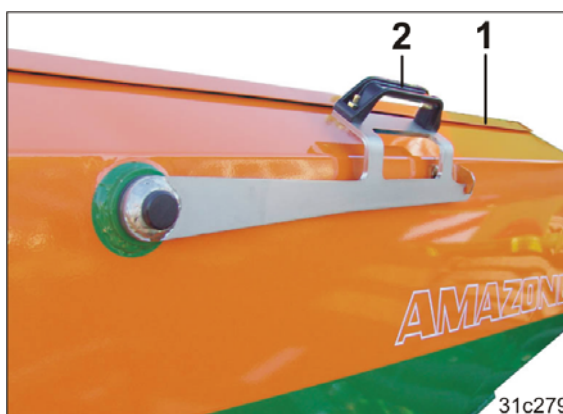

Fig. 227
4. Open the cover (Fig. 227/1) of the hopper.
- 4.1 Unlock the lever (Fig. 227/2).
- 4.2 Open the lid (Fig. 227/1) by actuating the lever.